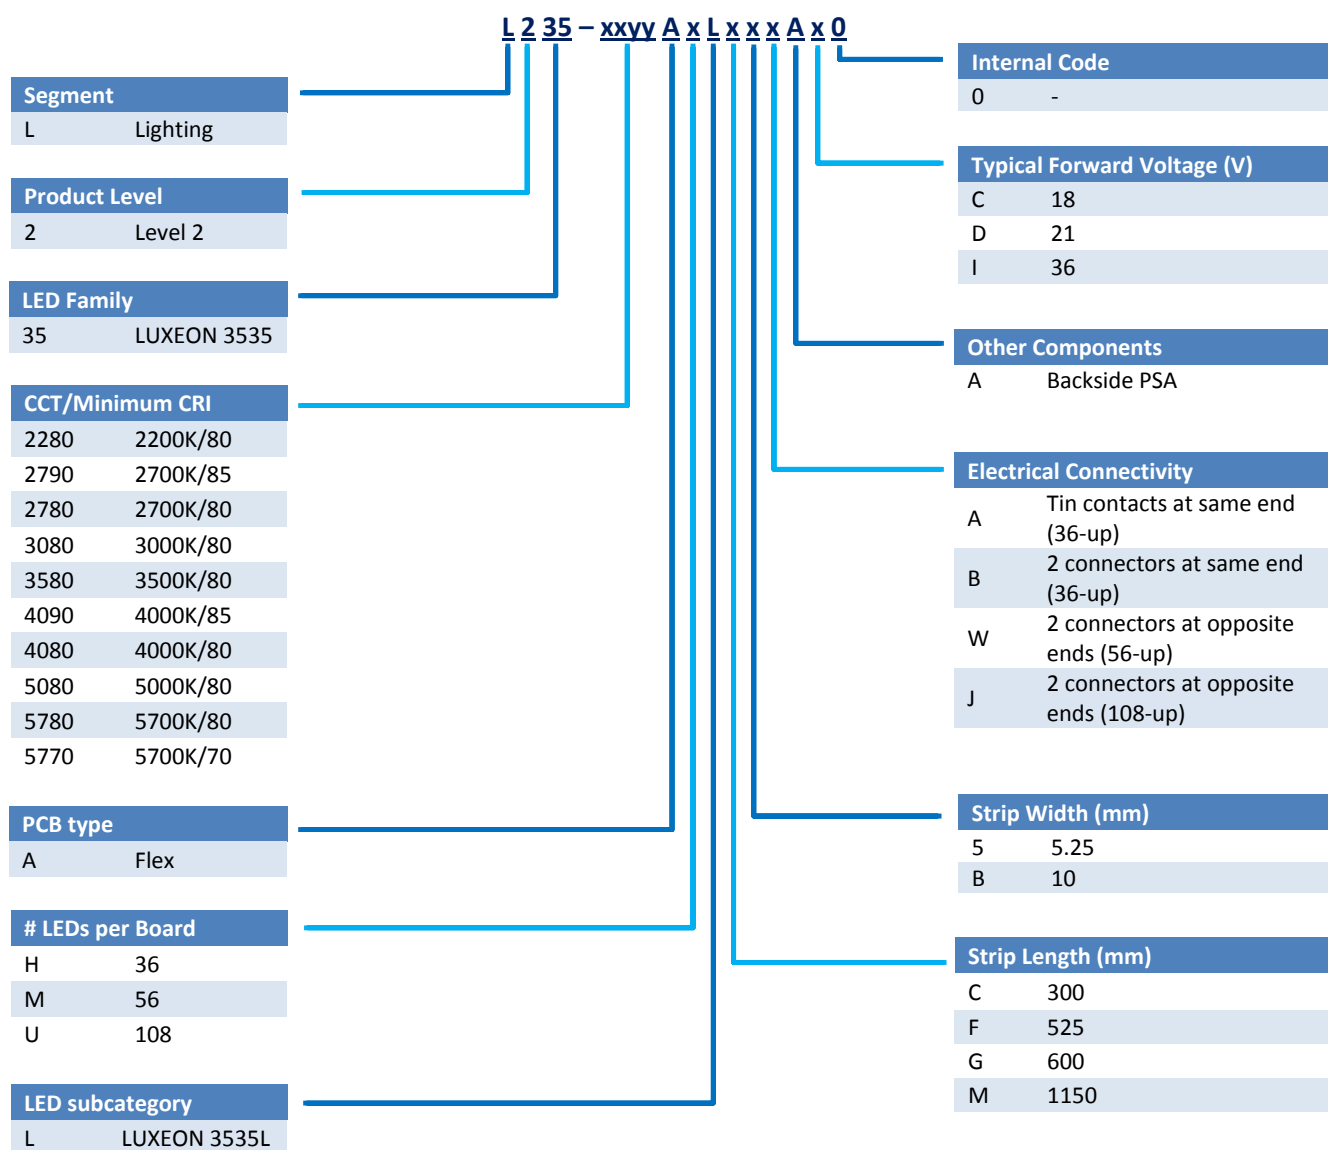

Figure 1.
- "x" and "y" are part number attributes as described in the Product Nomenclature section (Figure 1).
- "xyy" and "z" are part number attributes as described in the Product Nomenclature section (Figure 1).